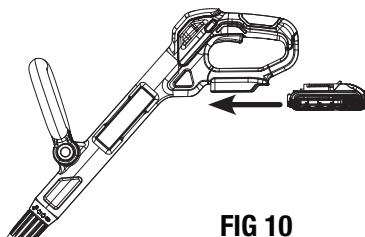

FIG 10
INSTALLING OR REMOVING THE BATTERY PACK (FIG 10)
- To install the battery pack, slide the battery pack onto the bottom of the rear handle all the way until it locks in place with a click, as shown in FIG 10. Lightly pull on the battery to ensure it is locked into place and will not accidentally fall out of the product.